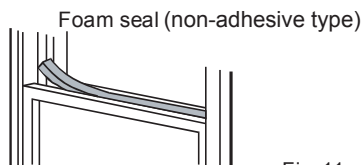

Fig. 11
5. Cut the foam seal(non-adhesive type) to an appropriate length and seal the open gap between the closed top window sash and outer window sash. See Fig.11.